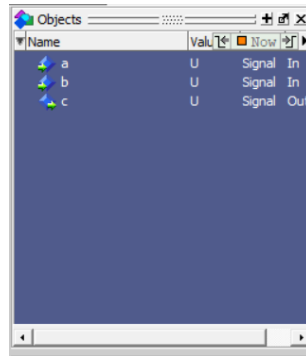

Figure 7: Object window
5. A New tab will open called Objects Fig.7, if it didn't open it from view menu.